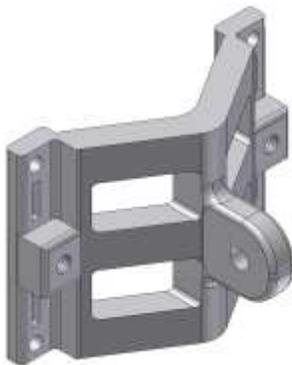

Figure B-1. Large Clamp
- One large clamp (*Figure B-1*)